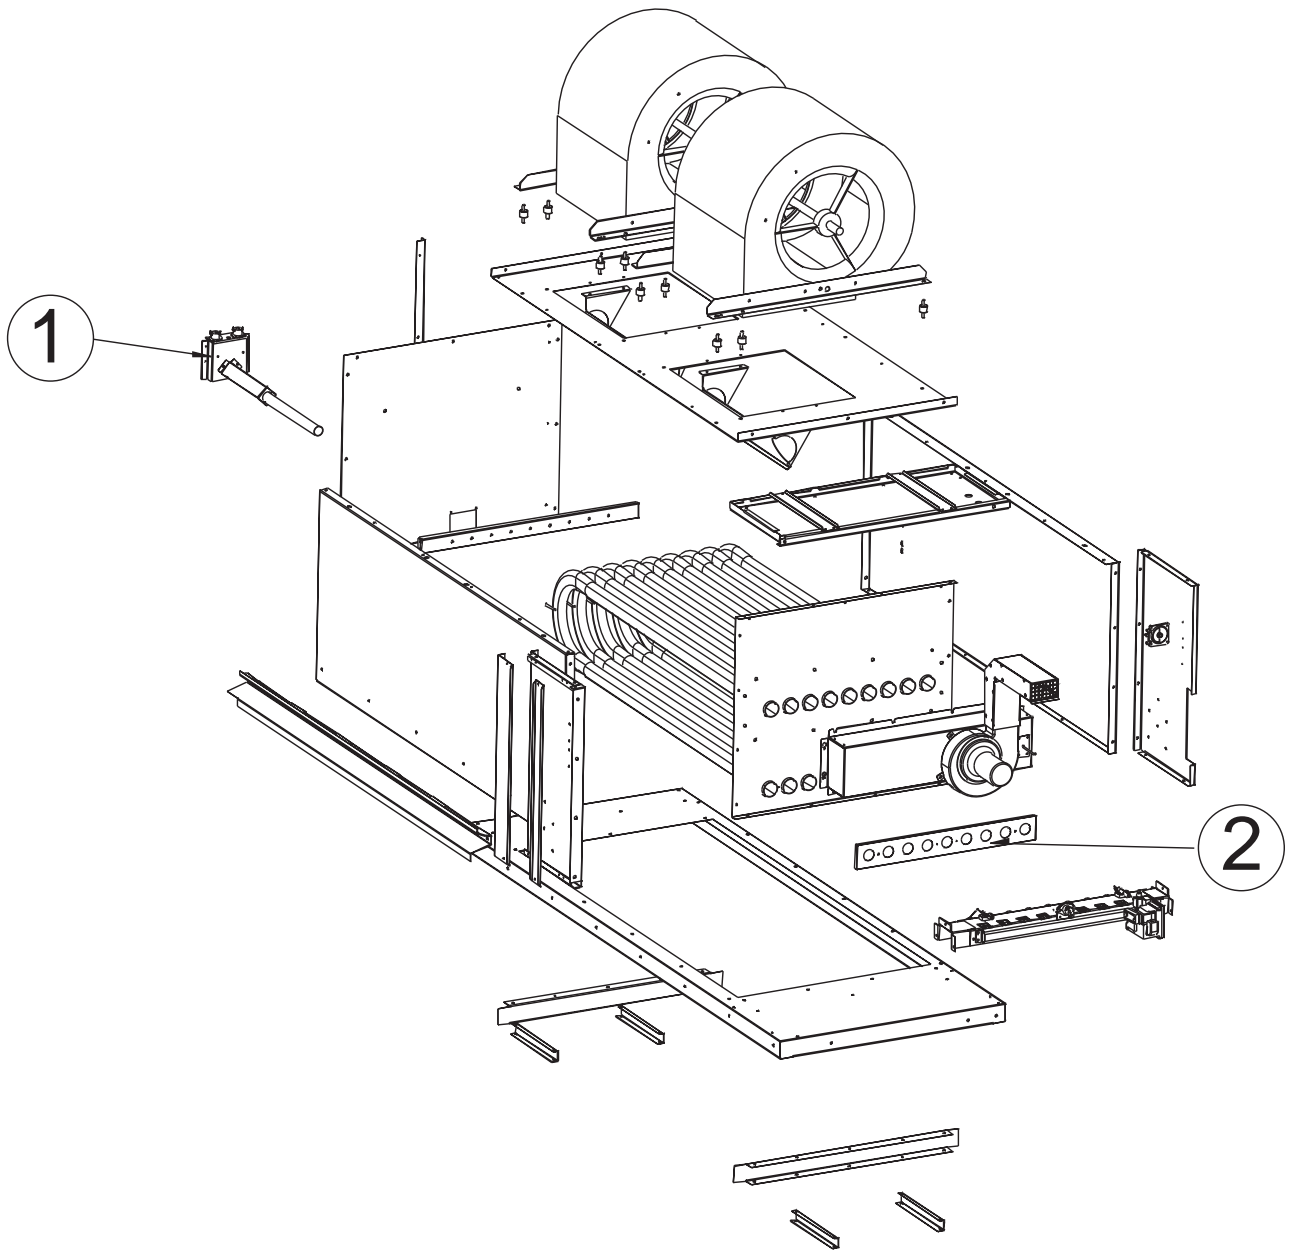

Figure 30
- Remove the limiters (2) and deflectors (3) (see Figures 30 to 32).